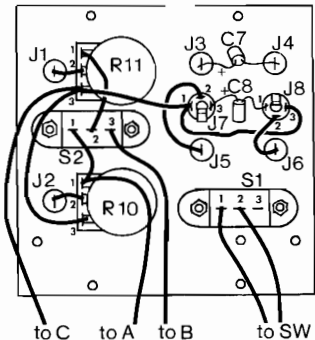
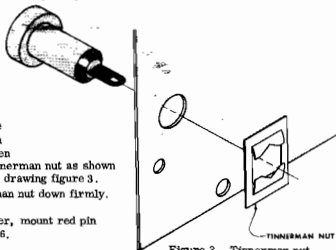

Figure 2 - Front panel parts installation & wiring diagram
Figure 3 - Tinnerman nut mounting detail
- () Place a red pin jack J1 in the hole provided as shown in figure 2. Fasten in place with a tinnerman nut as shown in detail drawing figure 3. Press the tinnerman nut down firmly.
- () Mount the closed circuit mini-phone jack, J7, on the front panel in the position shown in figure 2. Orient the jack as illustrated and fasten in place with the nut provided.
- () Mount one of the 5K potentiometers, R10, in the position shown in figure 2. Use two of the 3/8 inch nuts provided, one behind the panel as a spacer and
the second one in front of the panel hold the control in place. Adjust the rear nut so that none of the threaded shaft is exposed when the front nut is tightened down. This will allow the control knob, which will be mounted in a later step to be seated as close to the front panel as possible. Orient the control as shown in figure 2.
- () In a similar manner, mount the remaining 5K potentiometer, R11, as shown in figure 2.
- () Using two #4-40 X 1/4 inch machine screws, two #4-40 nuts, and two #4 lockwashers, mount slide switch S1 as shown in figure 2.
- () a 2 inch (5 cm) length from lug 1 of R11 to lug 2 of S2. Solder both connections. See figure 2.